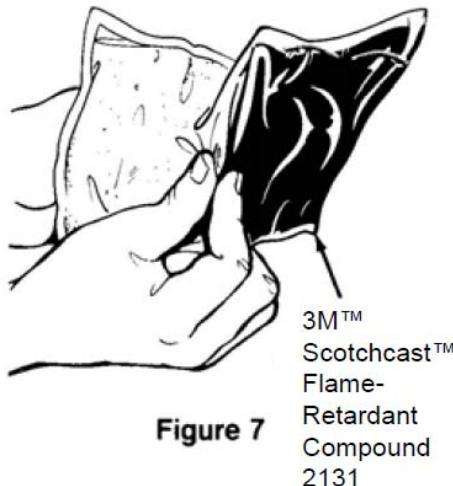

**Figure 6**
- a. Make a straight knife slit in cover of closed carton that is slightly longer than the mold's hinge. (Figure 6)
- b. Position carton beneath splice and press the mold's hinge into the knife slit. This holds splice in position for compound pouring. (Figure 6)